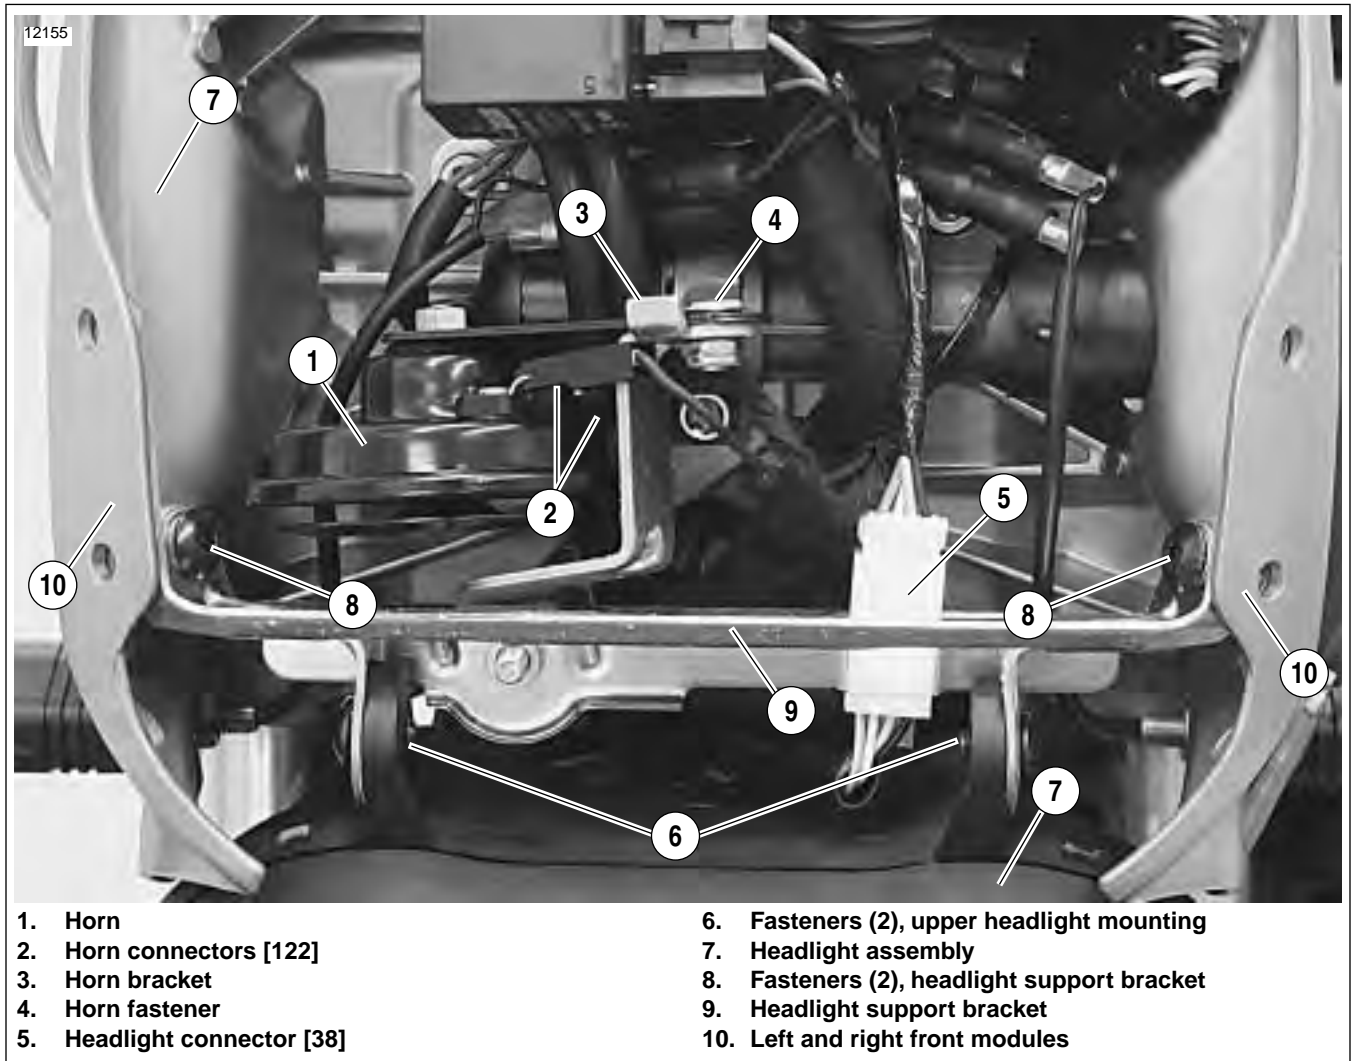

Figure 2-107. Electrical Connectors Behind Windscreen
1. See Figure 2-107. Install headlight support bracket (9).
2. Apply LOCTITE 272, install fasteners (8) securing headlight support bracket to left and right front modules (10) and tighten to 48-72 **in-lbs** (5.4-8.1 Nm).
- a. Install headlight assembly (7) into headlight support bracket (9).
- b. Install both upper headlight fasteners (6) but do not tighten.
5. Connect headlight connector [38] (5).
6. Install horn (1) and tighten fastener (4) to 72-96 **in-lbs** (8-10.8 Nm).
7. Connect horn connectors [122] (2).